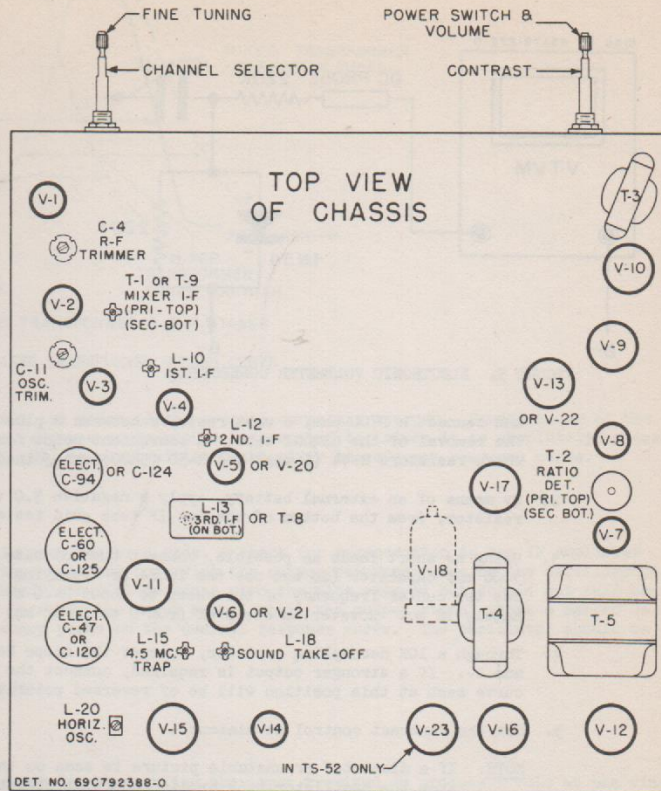

FIGURE 4. TUBE AND ALIGNMENT ADJUSTMENT LOCATIONS
Refer to Figure 4 for location of adjustments.
6. Peak the 1st IF coil, L-10, initially, for maximum response at about 26.0 mc. See Figure 4 for IF adjustment locations.
5. Set the generator to the oscillator frequency of channel 10 (170.15 mc) and adjust the oscillator trimmer C-11 (see Figure 4) for zero beat viewed on the oscilloscope. Zero beat is indicated by the sharply defined trace that appears between the two wide traces as the trimmer is tuned through resonance.